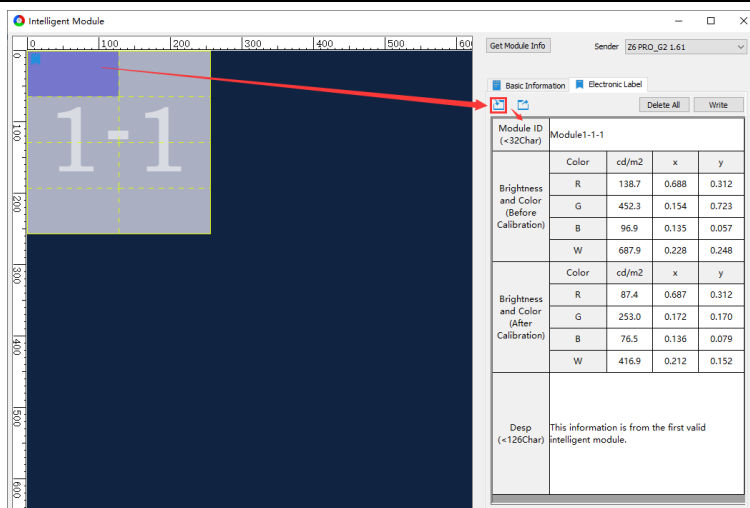

Fig 11.3.1 Import electronic labels
Step 1: To import electronic labels for a module, select the module first. Then, click the Import icon above the table or enter the label information directly in the table, as shown in Figure 11.3.1.